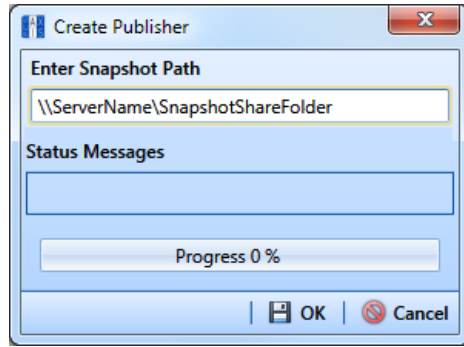

Figure 16-2. Create Publisher
- 1 Click **Tools** > **Synchronization** > **Create Publication** to open the *Create Publisher* dialog box (Figure 16-2).